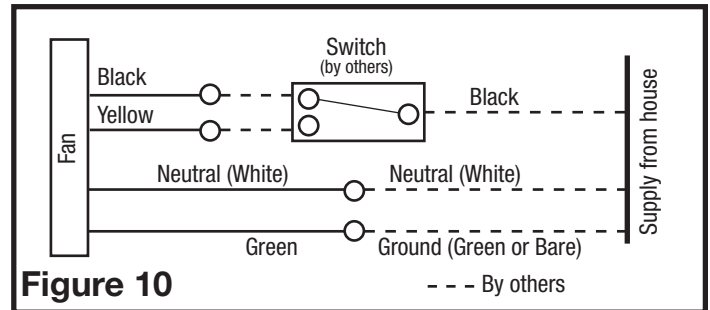

Figure 10
- 3b. From where you have chosen to access the fan's junction box, connect the white wire from the house to the white wire from the fan. Connect the wire from the automatic position on the wall switch to the black wire from the fan, connect the wire from the manual On position on the switch to the red wire from the fan. Connect the ground wire from the house to the green wire from the fan housing (**Figure 10**). Use approved methods for all connections.